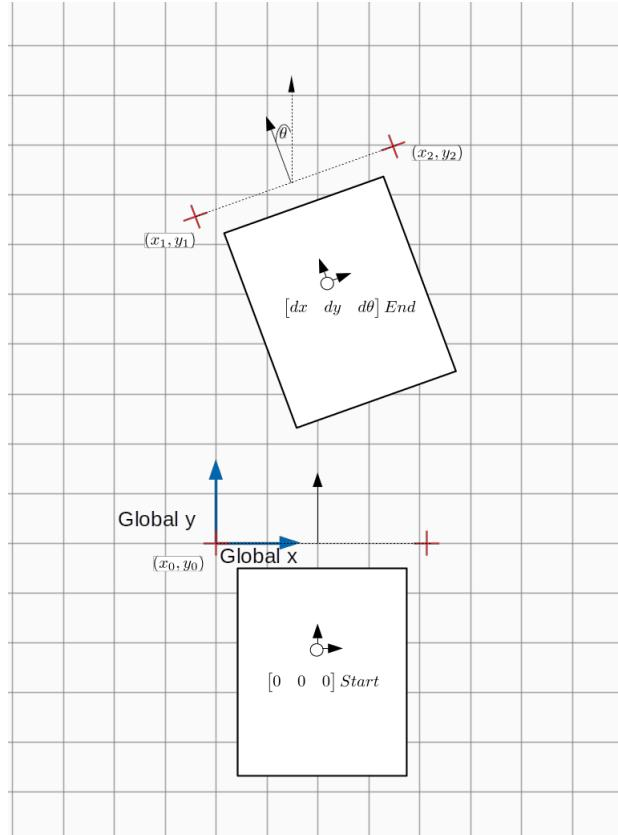

Figure 1.7: Robot orientation
- Since the magnitude change of x and y (Δx & Δy) will be the same for markers and the origin of the robot, we just have to account for the offset. The change in orientation will be the same and requires no additional calculations. See Figure 1.7 for details.
- Since there are 4 variables namely x_1, x_2, y_1, y_2 (refer Figure 1.7 for naming convention), the error associated to each of them contribute to the propagated error.